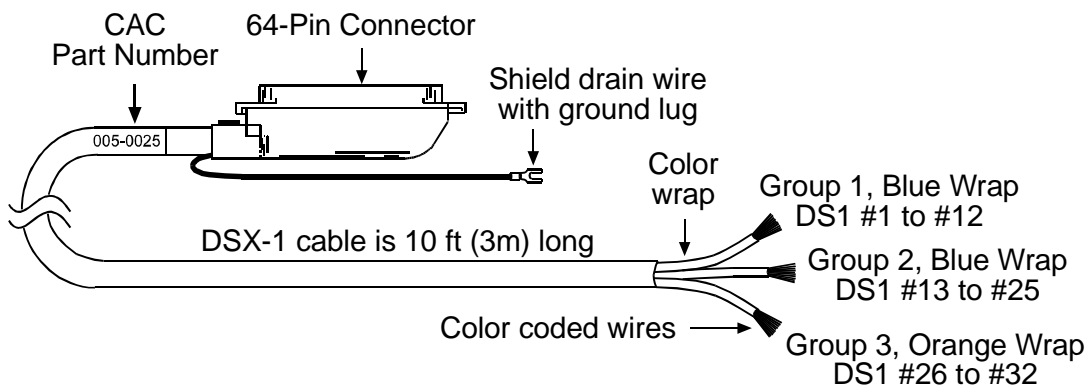

Figure 6-4. DSX-1 Cable with Flying Wires
2. If DSX-1 cables with flying wires are needed for wire-wrap or splice connections, cut off one connector and strip back the insulation (see Figure 6-4).